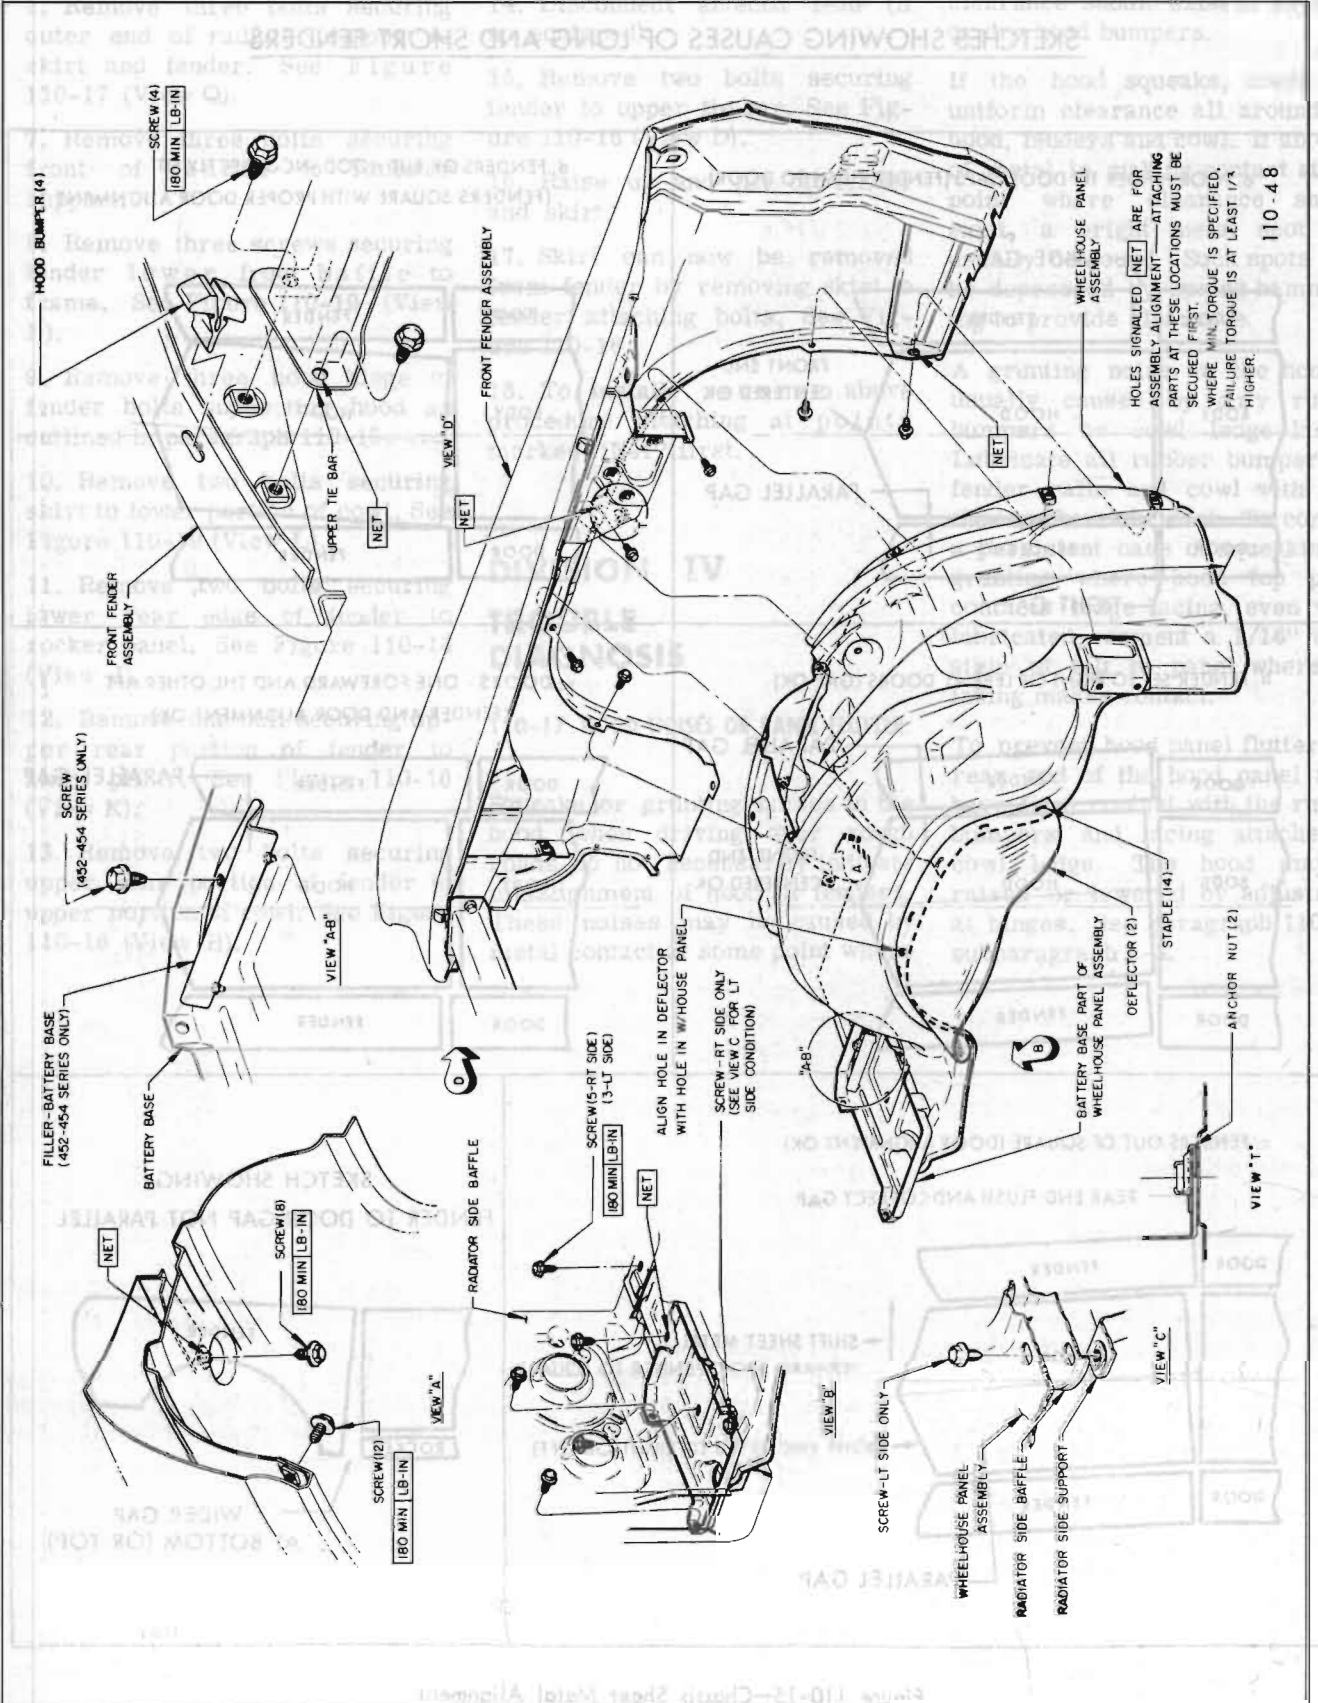

Figure 110-16 45-46-48000 Fender, Skirt, Battery Base
3. Remove four bolts securing battery base to support and fender skirt. Lift out battery base. See Figure 110-16 (View B).
15. Remove two bolts securing fender to upper tie bar. See Figure 110-16 (View D).
17. Skirt can now be removed from fender by removing skirt to fender attaching bolts. See Figure 110-16.